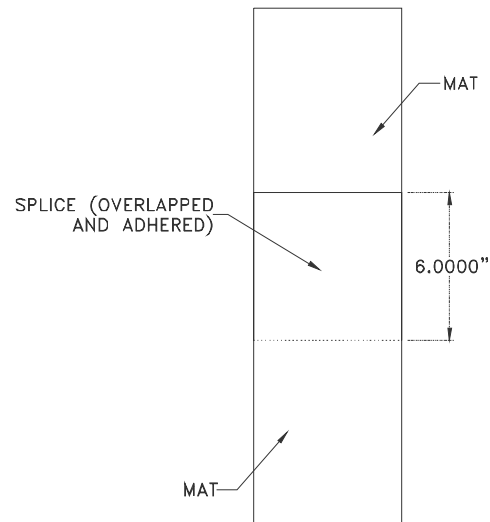

Figure 6
STEP 2. Using a general purpose spray adhesive (Tri-Star 315, 3M Hi-Strength 90 or equivalent spray adhesive), bond the overlap of the mating layers of mating MetaMat sections to one another (Figure 6).